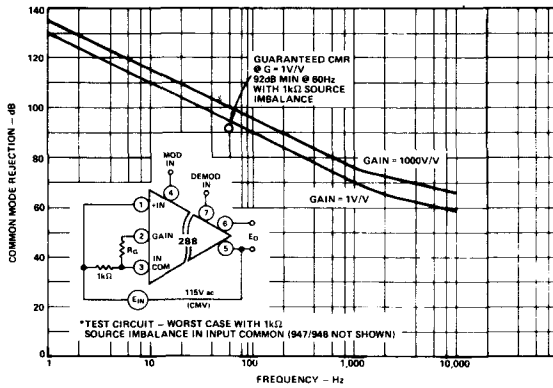

Figure 13. Common Mode Rejection vs. Frequency
**Common Mode Rejection:** Input-to-Output CMR is dependent on source impedance imbalance, signal frequency and amplifier gain. CMR is rated at 115V ac, 60Hz and  $1\text{k}\Omega$  imbalance at a gain of 1V/V. Figure 13 illustrates CMR performance as a function of signal frequency and gain. CMR approaches 130dB at dc with source imbalances as high as  $1\text{k}\Omega$  in the INPUT COMMON lead (worst case condition).